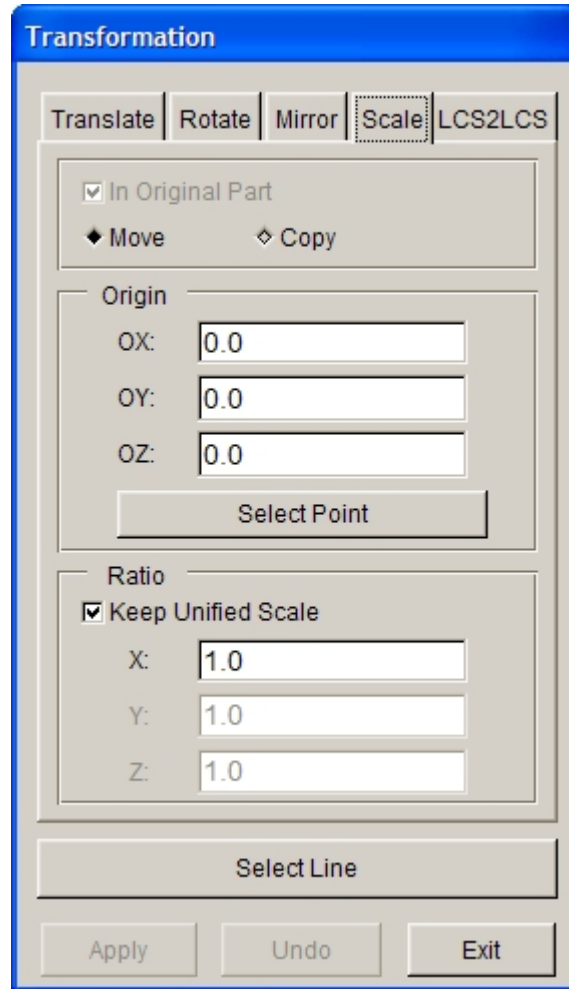

Figure 5.1.36 Scale Line Interface
1. Select a Scale type: MOVE or COPY, as shown in Figure 5.1.36. Once COPY is selected, IN ORIGINAL PART option is activated. The user can select or deselect IN ORIGINAL PART. If it is not selected, the scaled line will be in the current part.